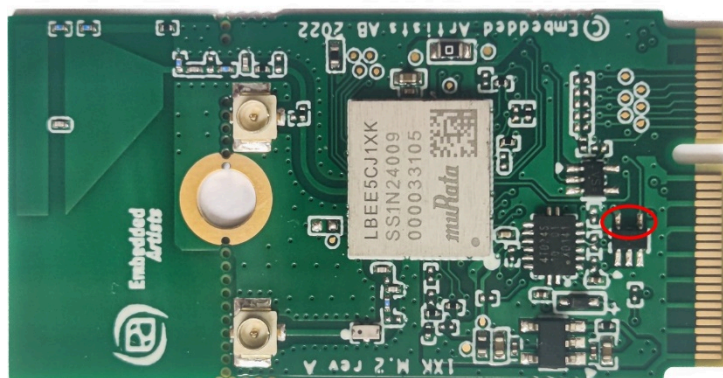

Figure 66. Murata 1XK M.2 Module
2. Solder 10K ohm resistor on the Murata 1XK M.2 Module at the location shown in Figure 66.